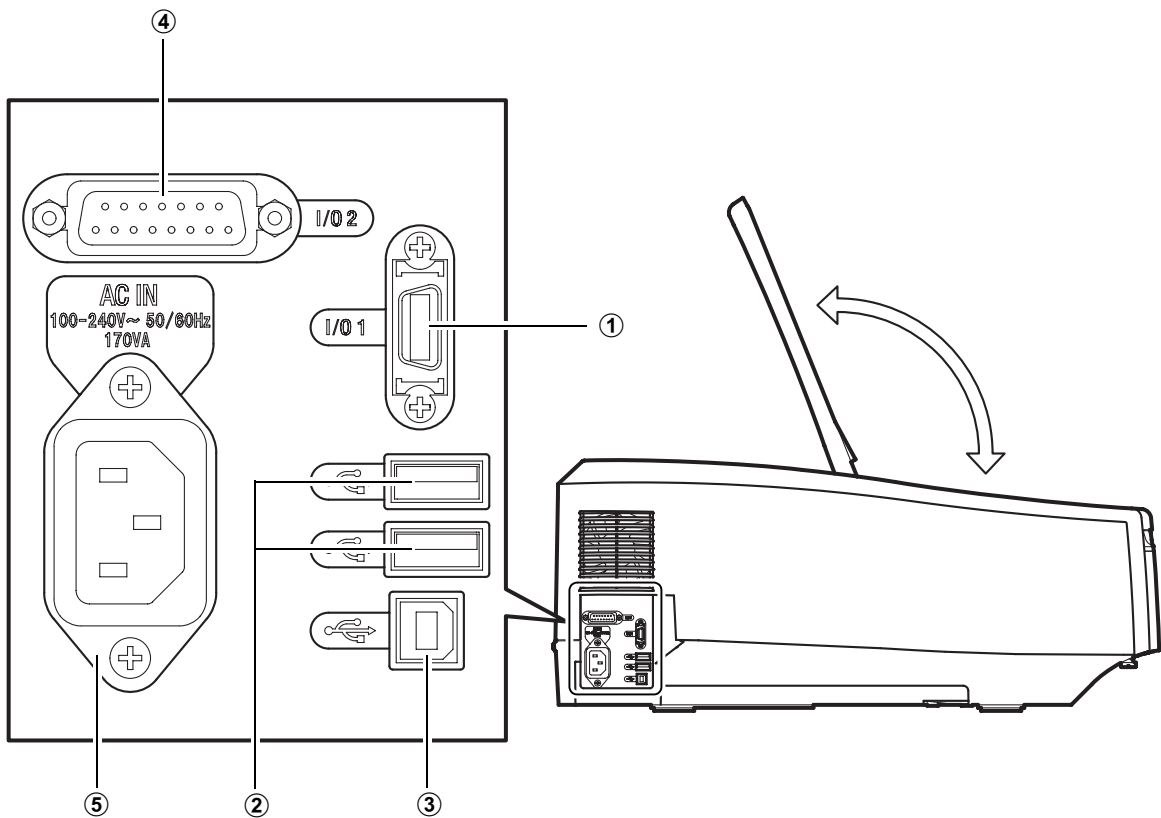

Fig. 1-3 UV-2600/2700 Left Side View
- 1 Connect the standard accessory AC power cord to the power supply connector (Fig.1-3) on the left-hand side of the spectrophotometer.